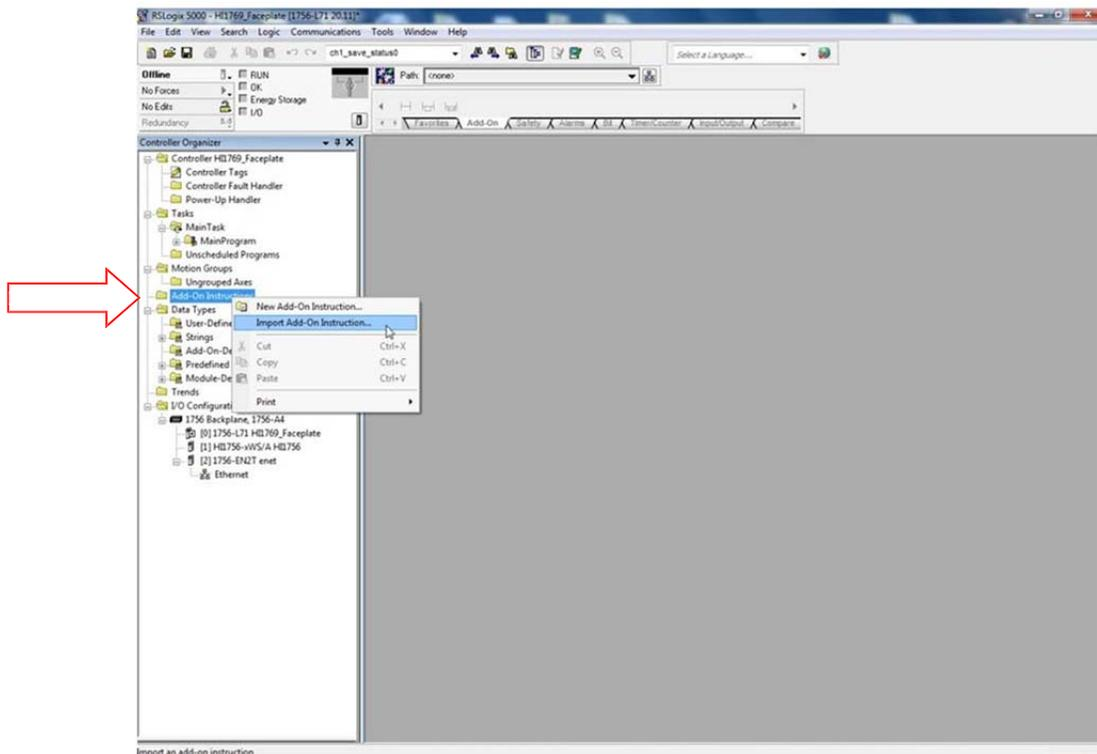

Figure 1
- Import the HI 1756WS\_AOI. See Figure 1.